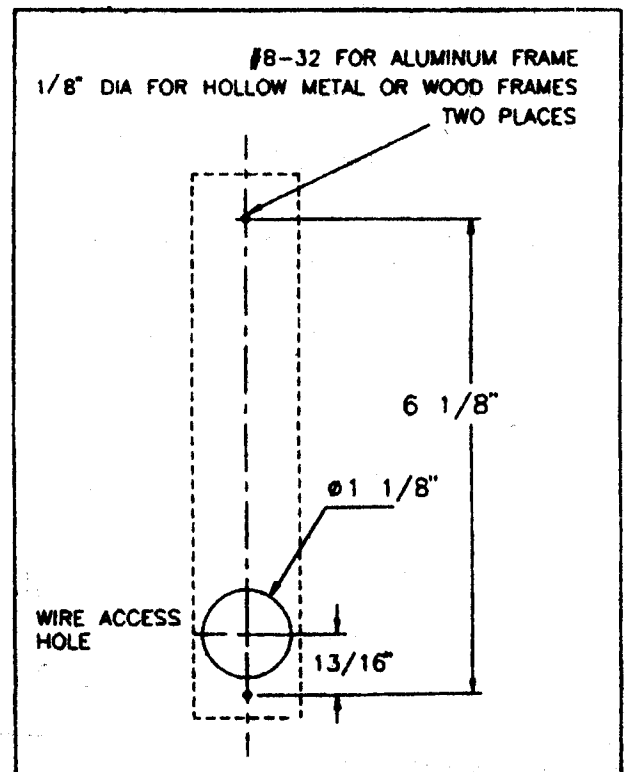

Figure 1 Mounting hole location.
**Step #1:** Prep wall or frame as shown in **Figure 1**.
- a) Drill two (2) mounting holes 6-1/8" from center to center to secure keypad as shown.
- b) Drill one (1) wire access hole 1-1/8" DIA. for connection cable at 13/16" above center of lower mounting hole.